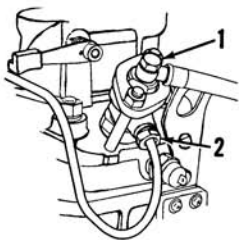

Fig. Y1-2—Illustration showing location of fuel return line banjo bolt (1) and injection line fitting (2). See text for fuel system bleeding procedure.
bleed screw (1 - Fig. Y1-1) on top of fuel filter and operate fuel pump priming lever (2) until air-free fuel appears. Tighten fuel filter bleed screw. In firing order sequence, loosen injector fuel return line (1 - Fig. Y1-2) banjo bolt and operate fuel pump priming lever until
air-free fuel appears, then tighten bolt. Loosen fuel line nipple on inlet side of injector (2 - Fig. Y1-2), set compression release lever to its decompression position, and crank engine until air-free fuel appears from all injection lines. Tighten injection line nipples.